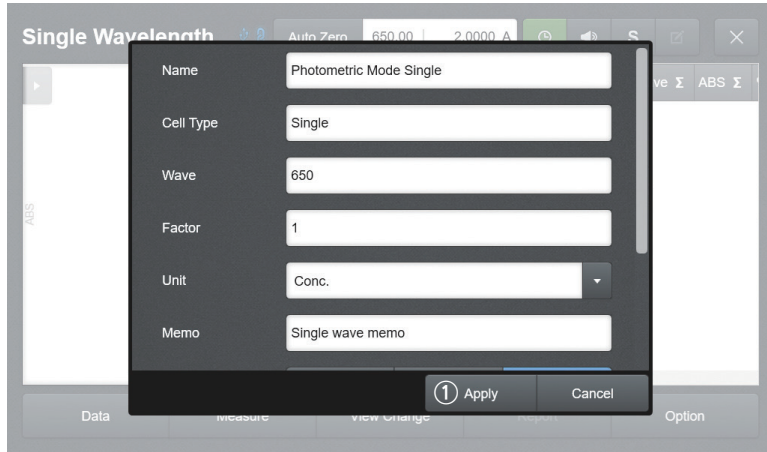

Fig. 2.13
3. [Fig. 2.13] Select and enter the Name, Cell Type, Wavelength, Factor, Unit, Memo, and View Change, then press ① **Apply**